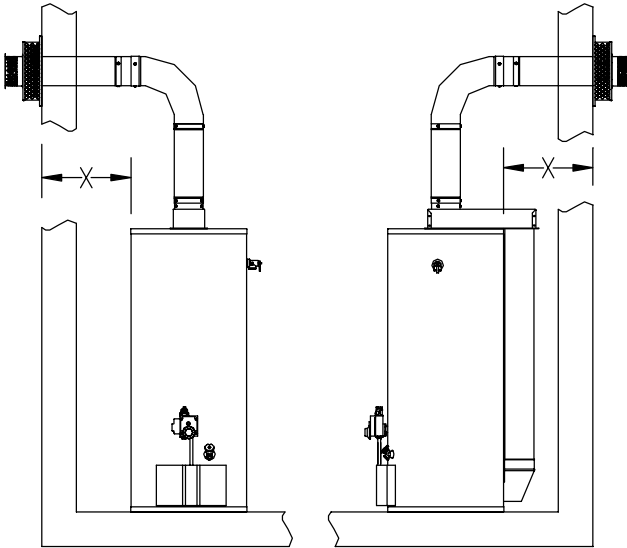

Figure 2
2. Measure the horizontal length "X" required in your installation. Reference the length in Table B under the column heading "Horizontal Length "X" (See Fig. 2)."